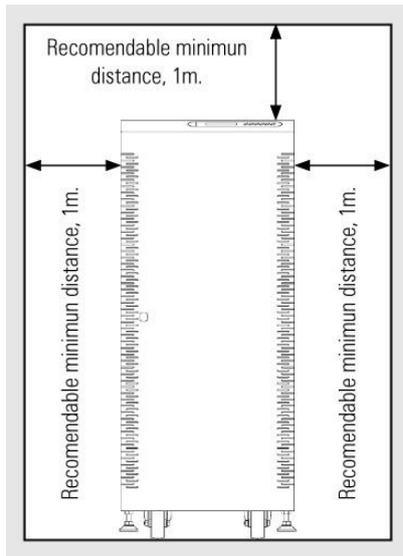

Fig.19. Front view UPS location
- In the Instructions of Security is indicated that it is necessary to leave a minimum of 25 cm in the contour of the equipment for your ventilation. Nevertheless, one recommends to leave other 75 cm. additional to facilitate the operations of maintenance of the equipment or interventions of the technical service in case of breakdown (see figures 19 and 20).